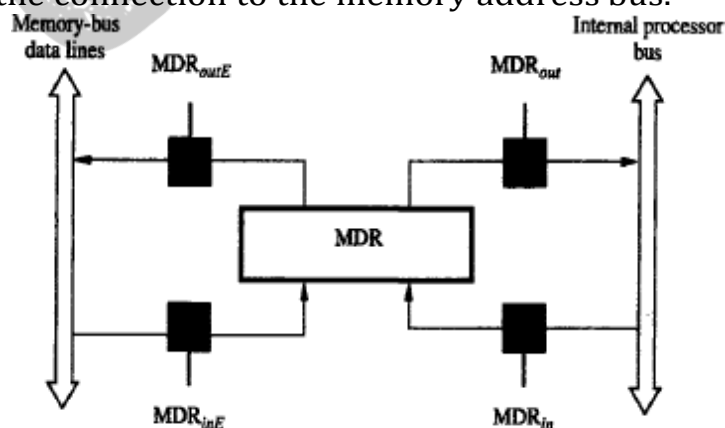

Figure 7.4 Connection and control signals for register MDR.
- The MDR register has 4 control-signals (Figure 7.4):